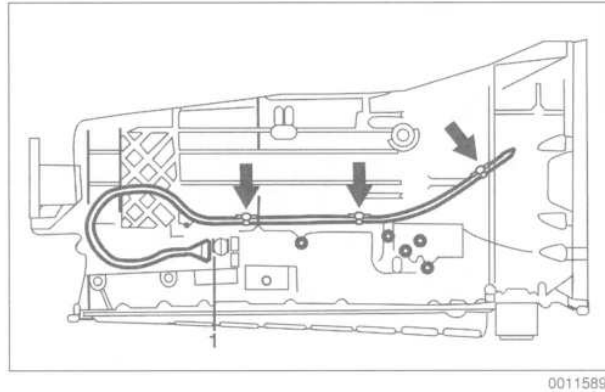

Fig. 14. Disconnect harness connector (1) and remove harness from clips (arrows).
6. Disconnect main harness connector at transmission. Turn connector counter-clockwise and pull straight off. Unclip harness. See Fig. 14.